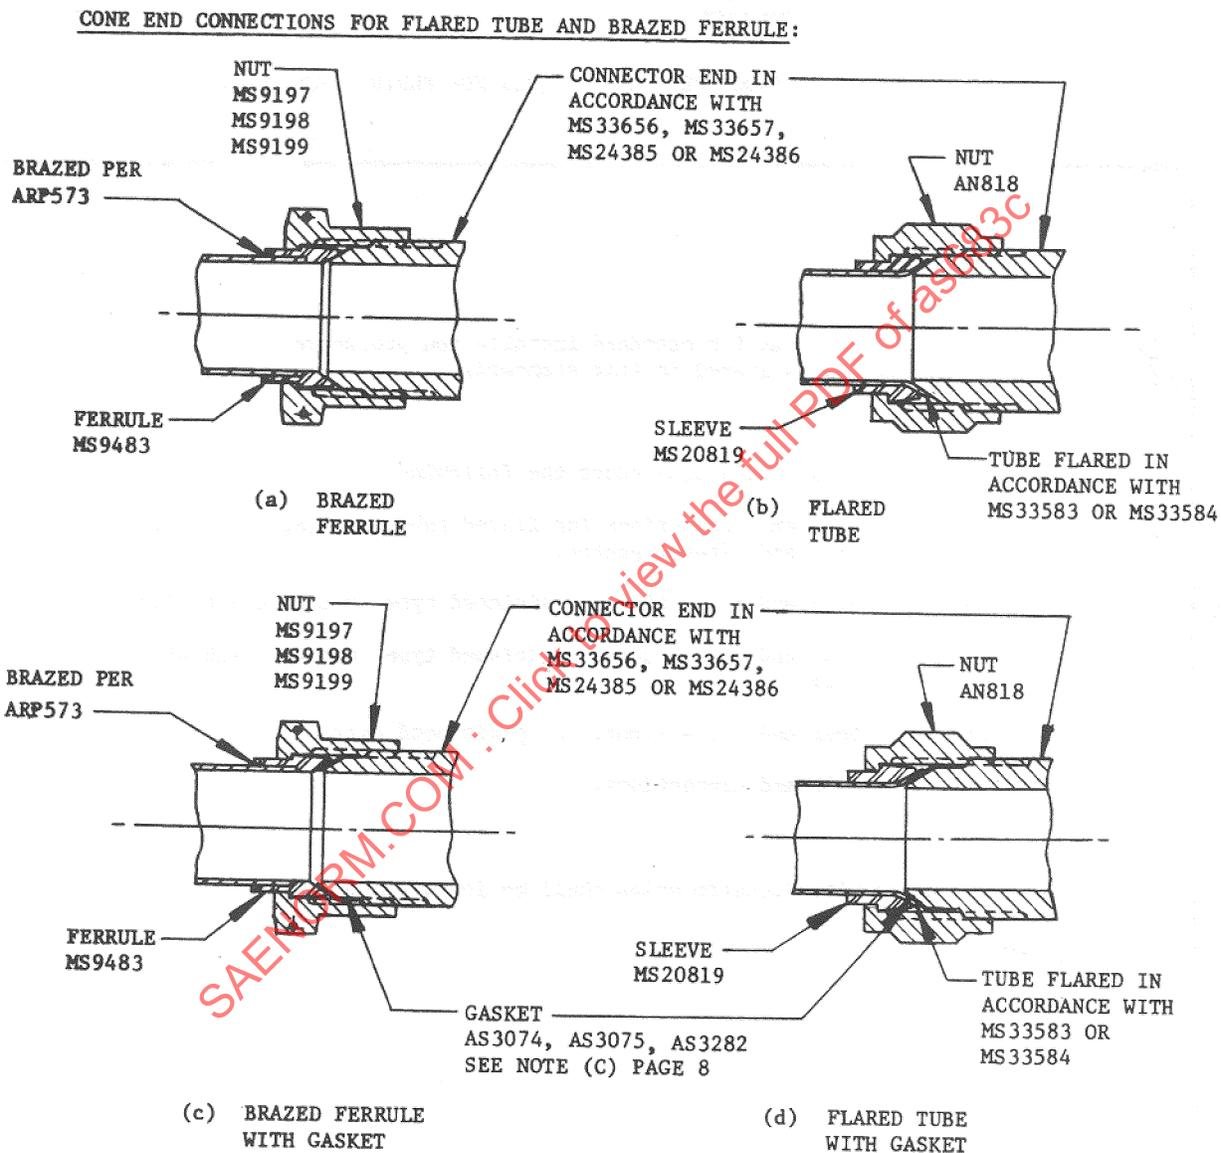

FIGURE 1
(C) Torque values are for nickel gasket seals used with steel fittings, see Figure 1.